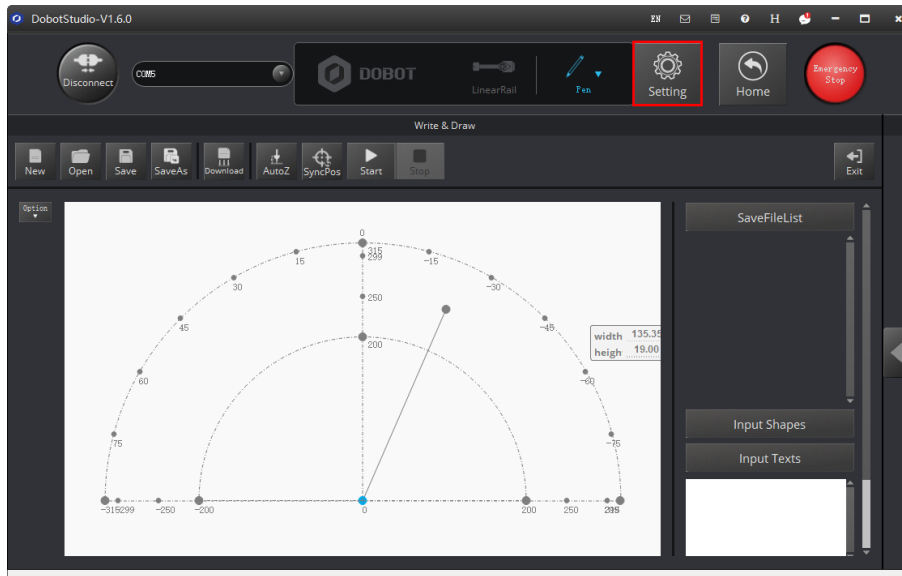

Figure 5.52 Click Setting
1. Click **Setting** on the **Write & Draw** page, as shown in Figure 5.52.